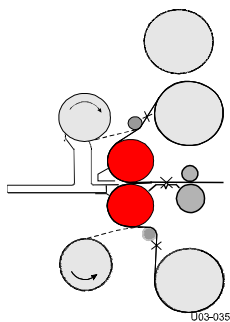

Figure 24: Unloading.
- Cut the laminates just before the splitter bars (see Figure 24).